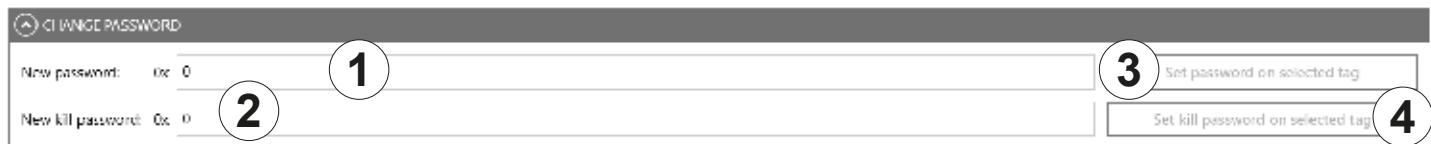

Fig. 68: TestGen2: change password
⑦	Lock all tags	<p>! ▶ To lock all the tags, make sure that all the tags have the same password.</p>
!	▶ To deactivate a tag, set a deactivation password that is not 0; see ② in Fig. 68, p. 104. After a kill command, the tag will be unusable!